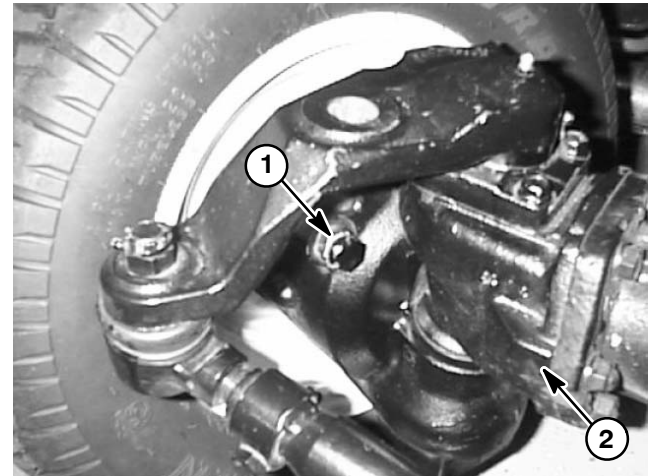

Figure 11
11. Check steering stop bolt adjustment. When the steering cylinder is fully contracted (left turn), a gap of 1/16" (1.6 mm) should exist between bevel gear case casting and stop bolt on left axle case. Figure 11 shows stop bolt location.